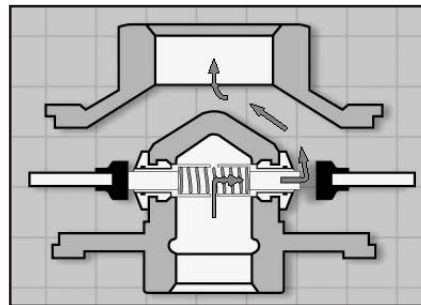

Fig. 3 - Monitor Operation with one side pushed open
C. While observing the downstream pressure gauge, begin pushing down on one of the stop stems. Doing so will force one side of the valve to open completely as shown in **Figure 3**. The downstream pressure will begin to rise until it reaches the monitor control pressure (SEE TABLE 1 - PAGE 13).
F. With the downstream isolation valve closed and no gas flowing through the regulator, begin pushing down on one of the stop stems. Doing so will force one side of the valve to open completely as shown in **Figure 3**. The downstream pressure will begin to rise until it reaches the